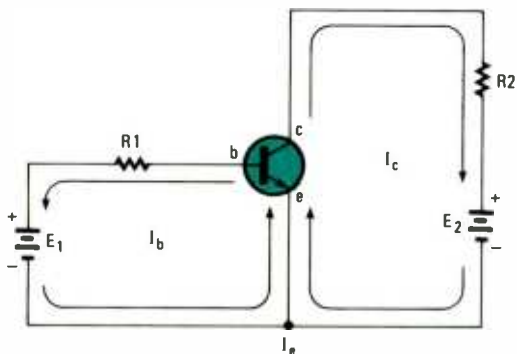
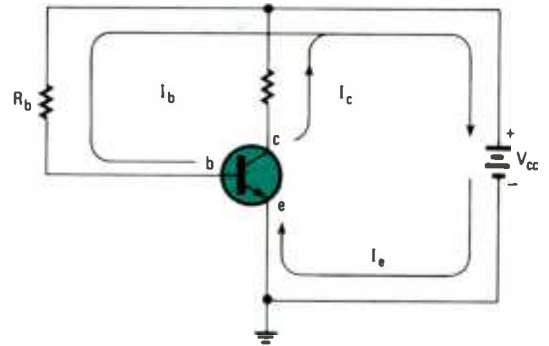

Fig. 18—There are two current loops in a common-emitter circuit that uses an NPN transistor.
Fig. 19—Resistor  $R_b$  permits a single voltage supply to bias an NPN transistor.
36. (True) Figure 18 shows how current flows. The e-b junction is forward-biased and the b-c junction is reverse-biased. The reverse bias on the b-c junction can be more readily seen if you first consider the voltage on the base. The base is .7 volts more positive than the emitter because of the voltage drop across the forward-biased e-b junction. The
Which expression below best describes the relationship between the currents in Figure 18?
Since both bias voltages (E1 and E2) in Fig. 18 are positive with respect to the emitter, they can be replaced by a single battery. (See Fig. 19.) Such an arrangement greatly simplifies the power supply requirements.
Refer to Fig. 19. Which expression is correct?